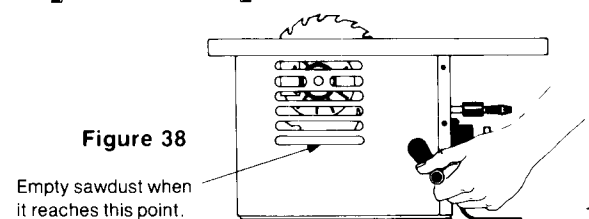

Figure 38
NOTE: Mounting the saw directly to your workbench requires that you cut a hole in the top of your workbench to prevent sawdust from accumulating beneath the Table Saw. Failure to cut this hole will require that you periodically remove the saw from the workbench to clear accumulated sawdust from beneath the saw. (CLEAR ACCUMULATED SAWDUST WHEN IT REACHES THE BOTTOM EDGE OF THE LOWEST AIR INTAKE SLOT, AS SHOWN IN FIGURE 38. FAILURE TO DO SO MAY CAUSE MOTOR OVERHEATING.) As an alternative mounting, we strongly suggest that you mount the saw to a piece of plywood, as discussed later under section "B".
- "C" clamp the plywood base to your workbench whenever you want to use the saw. To clear accumulated sawdust from beneath the saw, simply remove the "C" clamp and lift the Table Saw. (CLEAR SAWDUST WHEN IT REACHES THE BOTTOM EDGE OF THE LOWEST AIR INTAKE SLOT, AS SHOWN IN **FIGURE 38**. FAILURE TO DO SO MAY CAUSE MOTOR OVERHEATING.)
Blade angle can be adjusted from 0° (perpendicular to table top) to 45° (45° to the table top). Adjust blade angle by turning the crank handle located on the left side of the saw as shown in **figure 38**. The cutting angle is displayed on the mitre scale on the front of the saw.